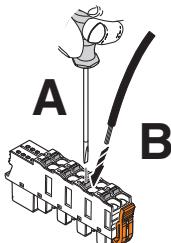

Figure 8-3 Connecting a stranded cable
- Open the spring by pressing the screwdriver onto the spring lever (Figure 8-3, A). Use, for example, a bladed screwdriver with a blade width of 2.5 mm. Phoenix Contact recommends the Szs 0,4x2,5 screwdriver (see Section “Ordering data” on page 142).
- Insert the cable in the terminal point (B).